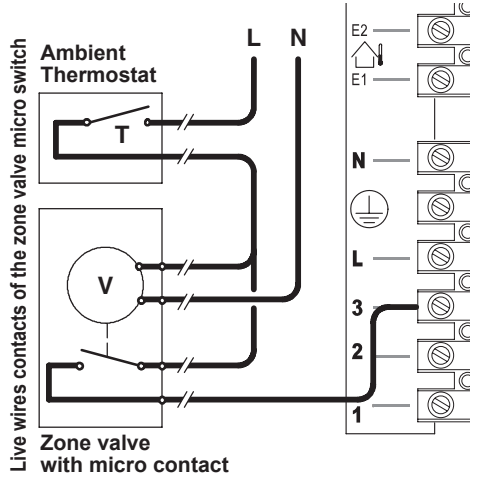

Fig. 6.24
**If the Ambient Thermostat is connected with live wires (Fig. 6.24) may lead dangerous voltage inside the appliance as well. Ensure they are isolated. In case of doubt turn off the general system switch.**